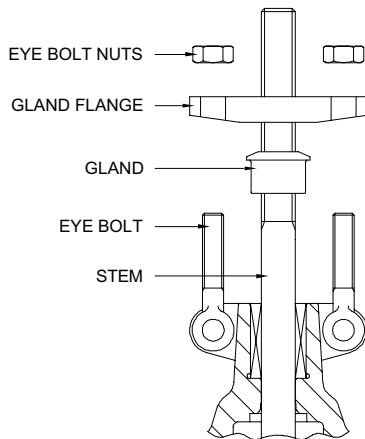
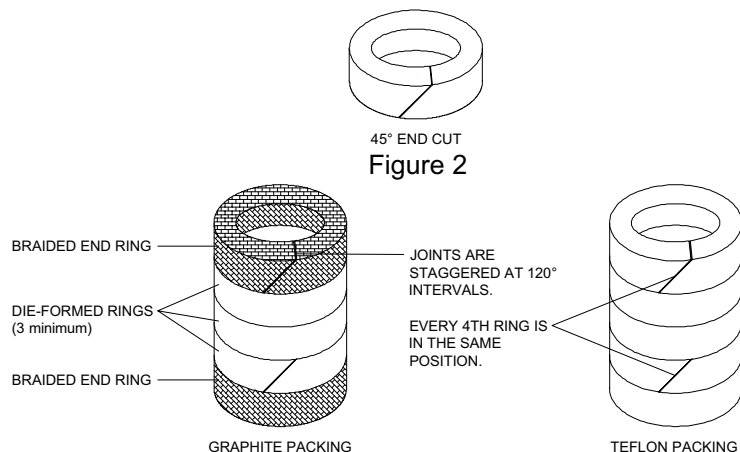

Figure 1
Figure 3
1. Check the original tightness of the valve operation. Remove the eye bolt nuts. Lift the gland flange and gland up the stem, clear of the packing well and loosely tie them off with string or wire (see Figure 1).
- a. Measure the stem diameter (OD), packing well diameter (ID), and packing well depth (d).
- b. The packing's cross-section thickness (R) = $(ID - OD)/2$
5. Install the new packing. Cut each ring at a 45 degree angle (see Figure 2) and proper length so that the ends meet each other. Stagger the joints at 120 degree. Every 4th joint will be in the same position as the first. Install rings individually (see Figure 3). Tamp each ring when installed.